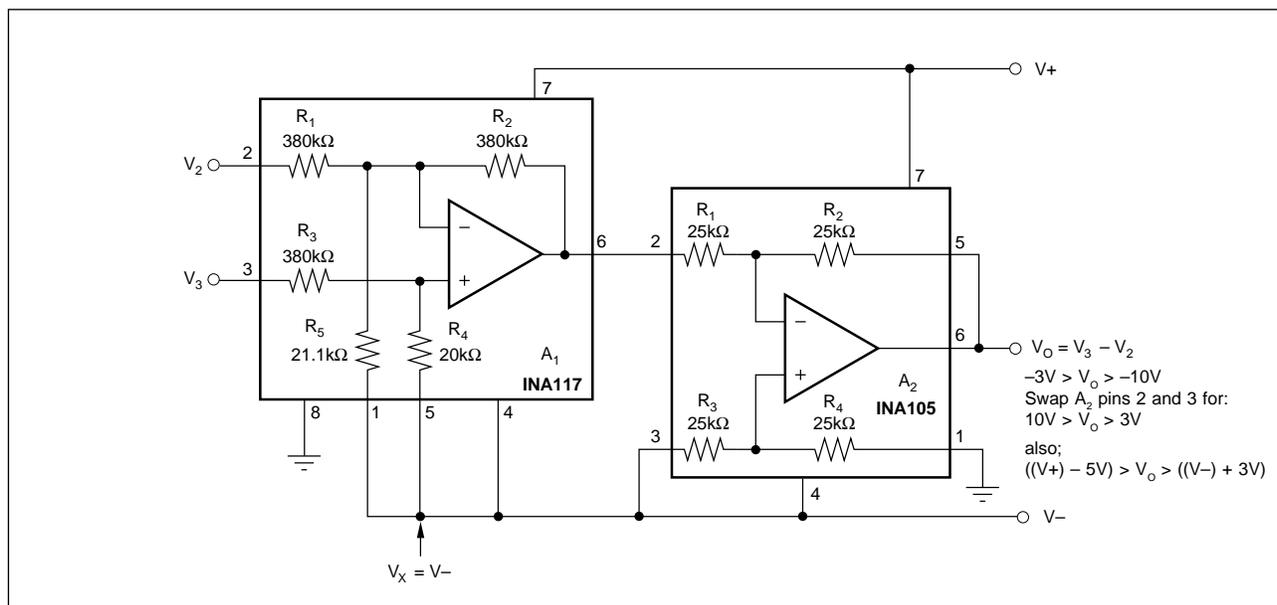
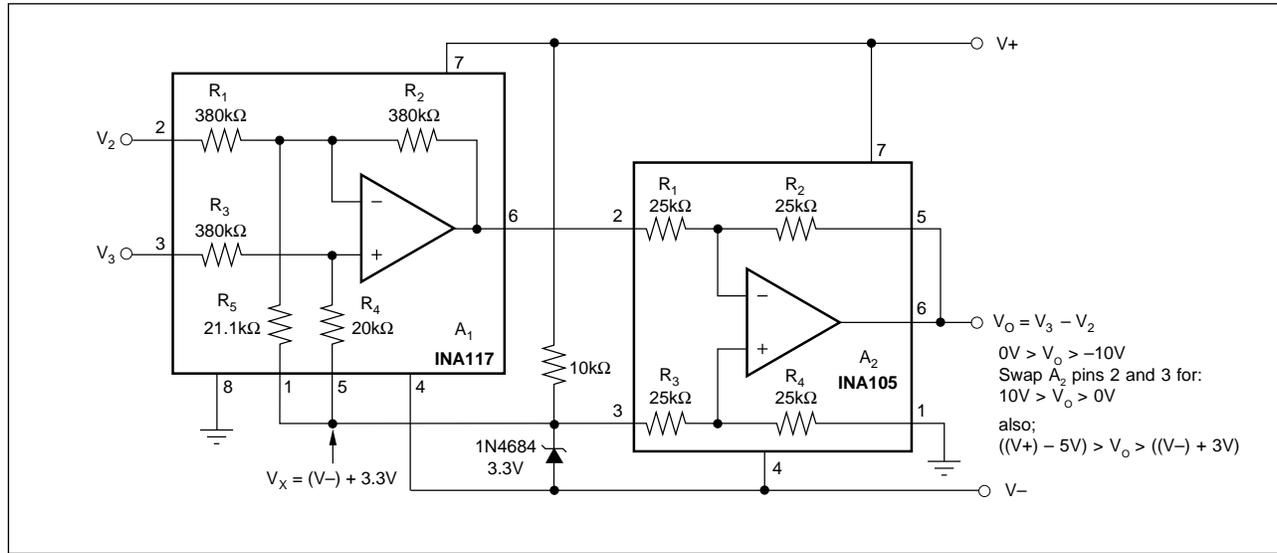

FIGURE 1. Offsetting the INA117 Common-Mode Input Range Using the Negative Power Supply as a Reference.
FIGURE 2. Offsetting the INA117 Common-Mode Input Range with a Zener Reference.
One way to offset the input voltage is to connect the reference pins 1 and 5 to the negative supply voltage as shown in Figure 1. Another possibility is to derive the offset voltage from a zener diode connected to the negative power supply as shown in Figure 2. In either case, the total common-mode range of the INA117 is unchanged and shifted by $-19 \cdot (V_x)$.
NOTES: (1) Reference connected to GND (normal operation). (2) Reference connected to $V-$ (see Figure 1). (3) Reference connected to $V-$ through 3.3V zener (see Figure 2). (4) Voltages greater than $\pm 200V$ are shown for reference only. INA117 maximum rated operating voltage is $\pm 200V$.
With zero differential input voltage to the difference amplifier, the output will be at zero volts with respect to the reference connection, V_X . The circuits in Figure 1 or 3 will not work with zero differential input. Since the difference amp reference pin is connected to $V-$, the output of the difference amp would saturate to its negative swing limit in an attempt to swing to $V-$. For the circuit to work, the differential input must be at least 3V so that the output of the difference amplifier is at 3V from $V-$. The input to the difference amplifier can be either +3V or -3V and the input connections (pins 2 and 3) can be interchanged to provide the proper output swing.
The circuits in Figures 2 and 4 will function with zero differential input since the reference is connected 3.3V from $V-$. Output swing in response to input signal must, however, always be in the positive direction. As before, the inputs of both difference amplifiers can be connected to accommodate any polarity of input/output swing.